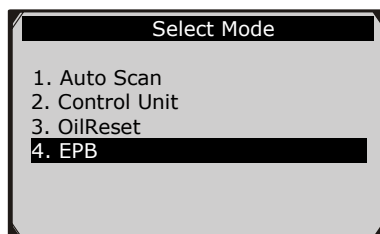

Figure 6.32
5. Select **EPB** from the **Select Mode** screen (Figure 6.32), and press OK button. (Take **Audi A8** as an example)